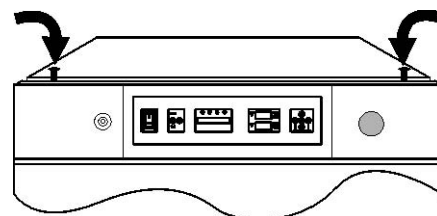

Figure 1-5. Hole Plug Locations
3. Unscrew the two hole plugs from the top cover of the incubator to be the bottom of the stack (Figure 1-5).